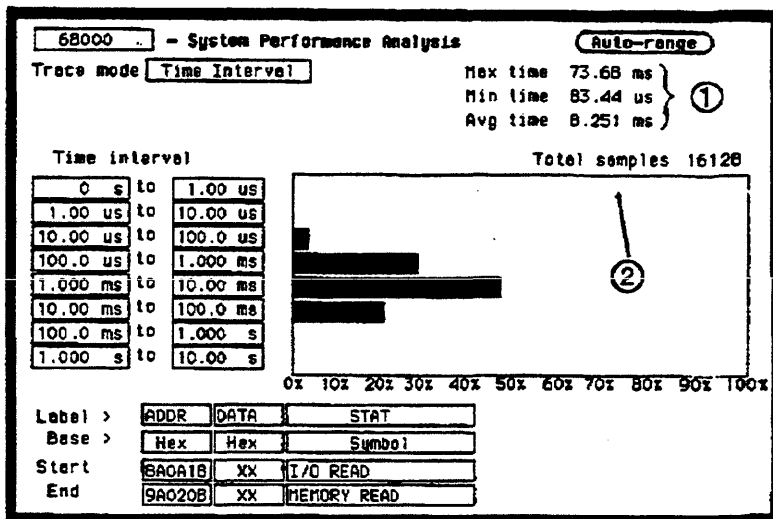

Figure 5-5a. HP 1650A Time Interval Display.
The analyzer continues to search for Start/End event pairs until you press STOP or until you change a display variable. The distribution of the event's time duration is displayed as histograms (see figure 5-5a and 5-5b).
The "Max time," "Min time," and "Avg time" statistics give you useful statistics for the event you defined no matter what ranges you've set up (item 1 in figure 5-5a and 5-5b).
The "Total samples" field shows the number of Start/End event pairs found by the analyzer, whether they are covered by the ranges or not (item 2 in figure 5-5a and 5-5b).